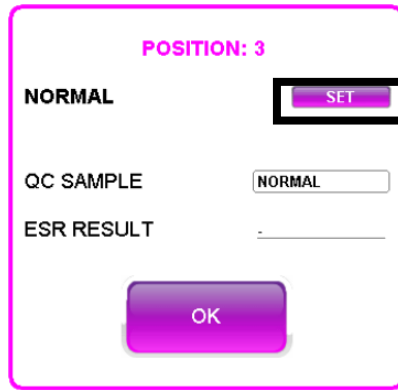

Figure 37 - Sample detail
- 2) Select the 'SET' button (black square in Figure 37)
- 4) Confirm with the 'OK' button (Figure 37)
The type of tube can also be selected manually during the scanning phase of the plate: by selecting the position of a sample, the window of Figure 37 will be displayed.